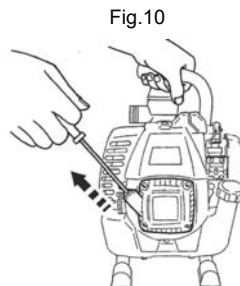

Fig.10
- Pull the starter handle slowly until resistance is felt. (Fig.10)